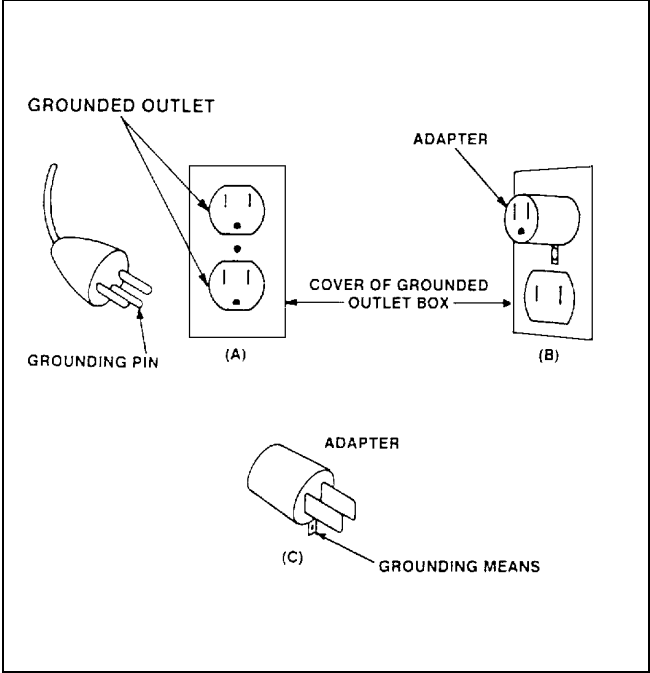

Figure 1 - Grounding Methods
13. This unit is for use on a 121-volt circuit, and has a grounding plug that looks like the plug illustrated in Figure 1. A temporary adapter, which looks like the adapter illustrated in sketches B and C, may be used to connect this plug to a two pole receptacle as shown in sketch B if a properly grounded outlet is not available. The temporary adapter should be used only until a properly grounded outlet can be installed by a qualified electrician.